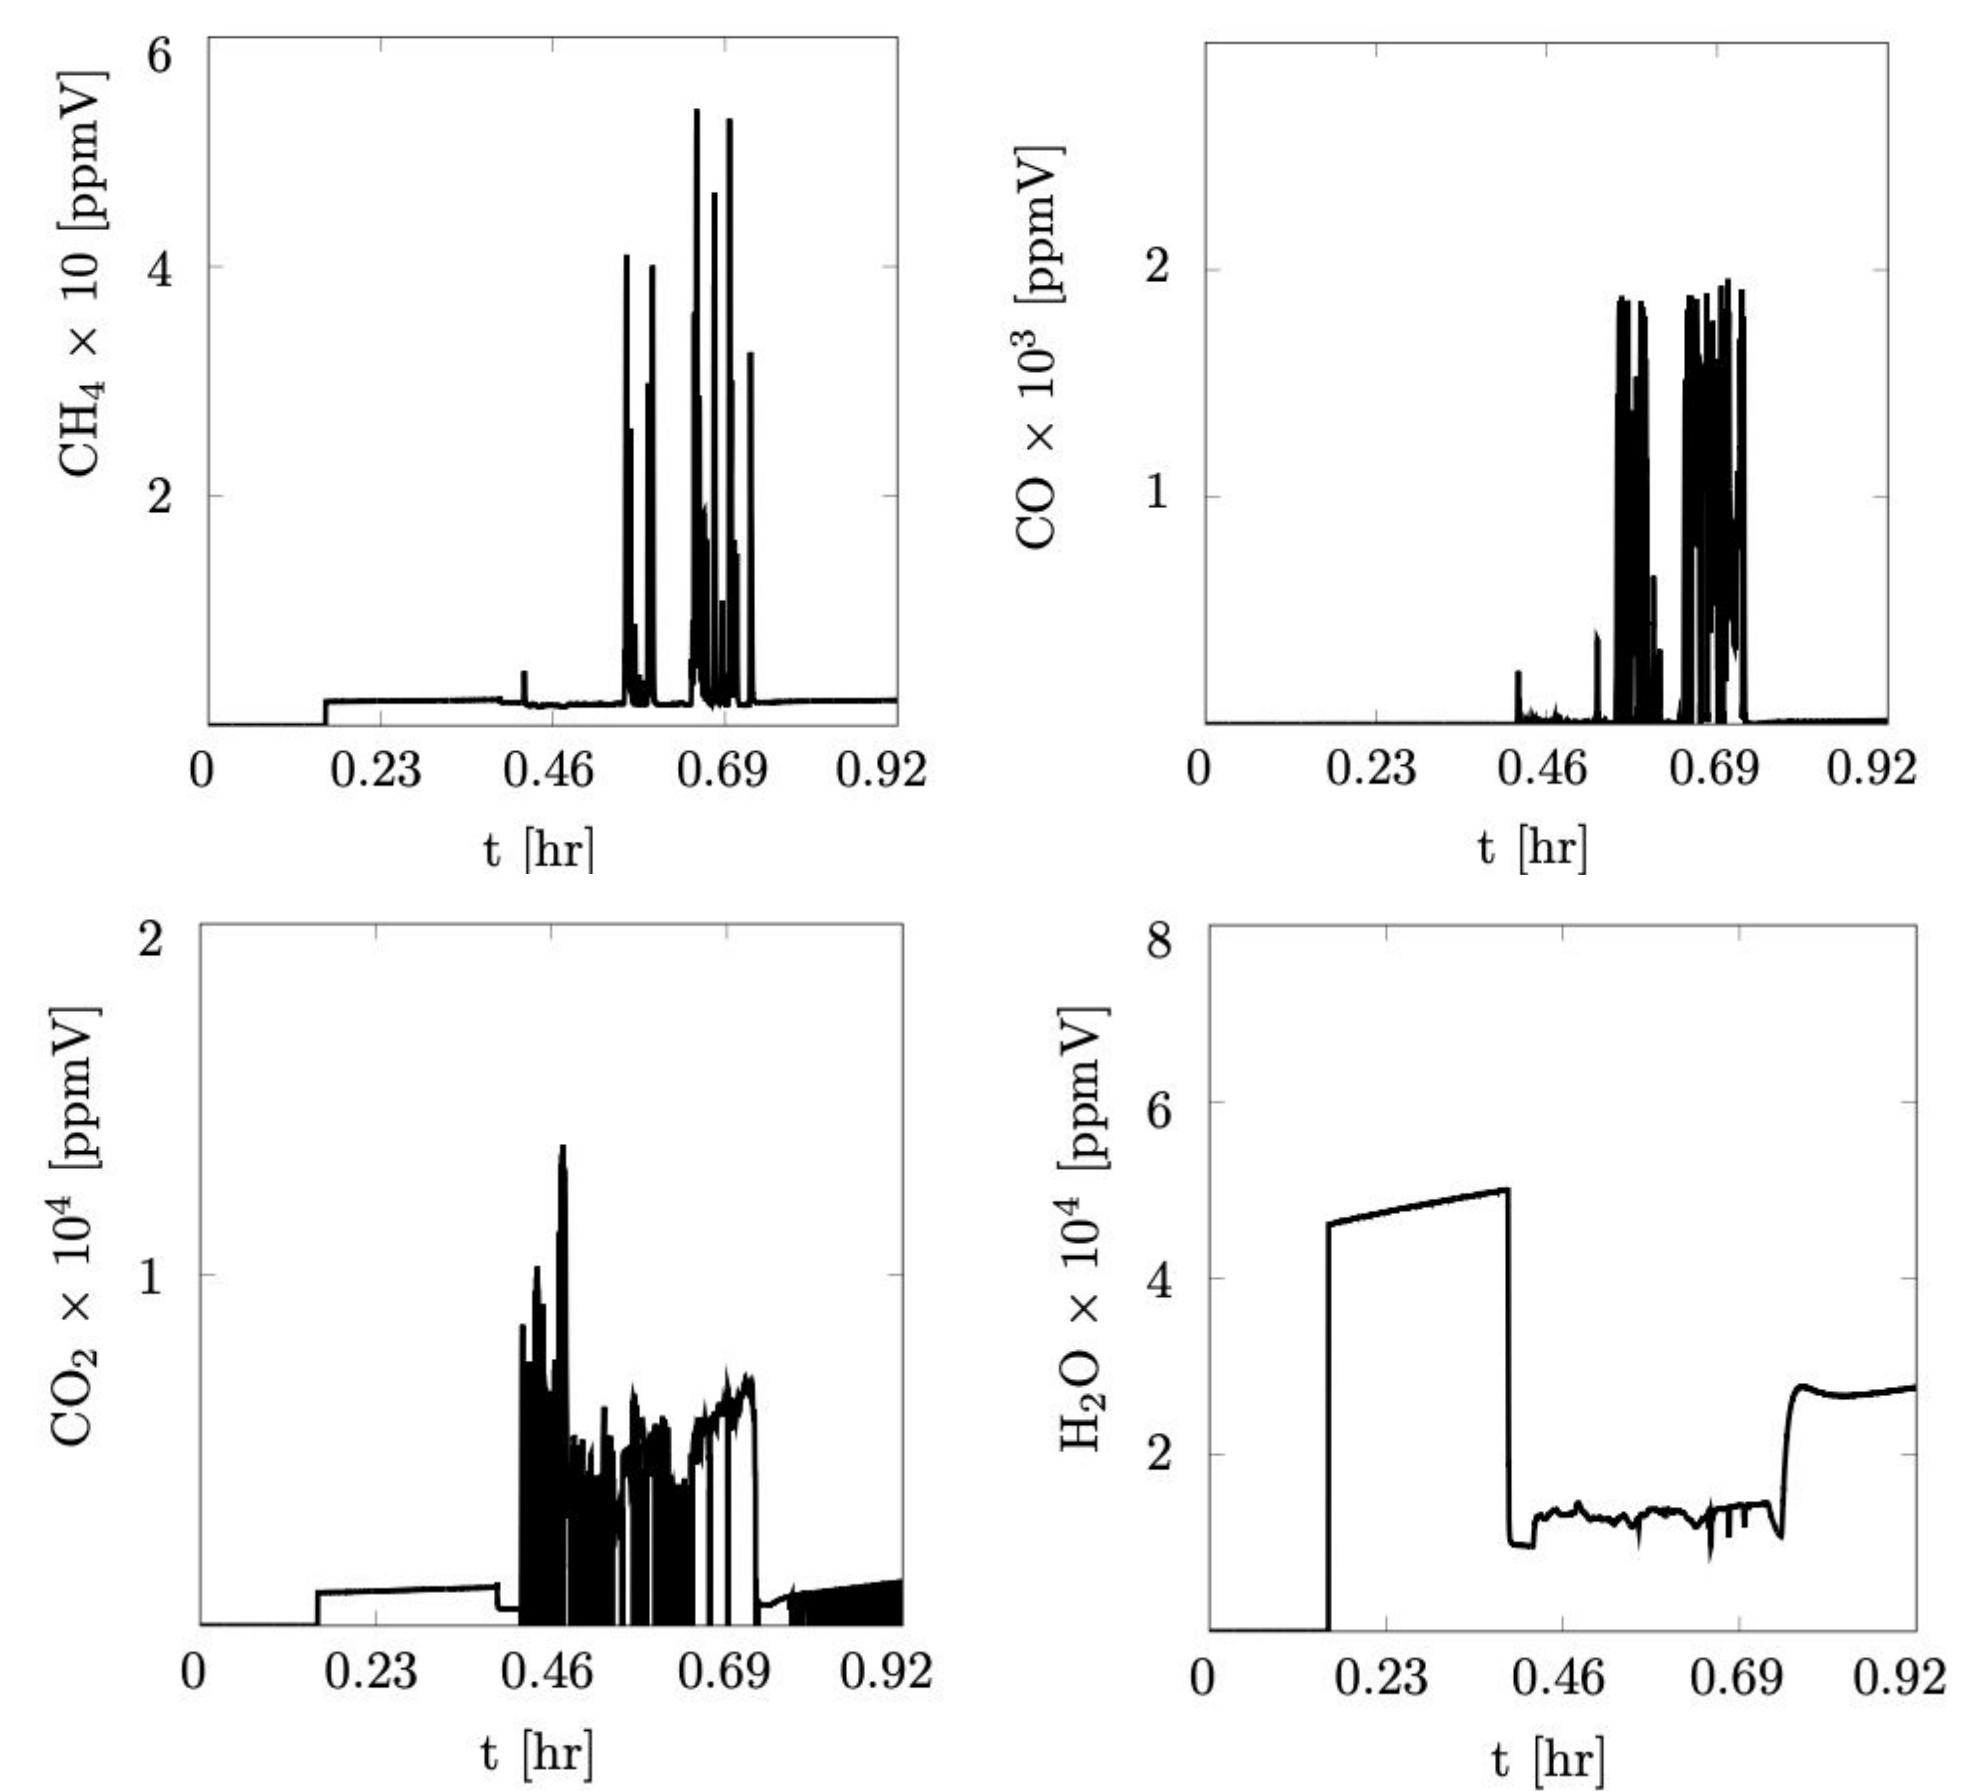

Figure 4: The concentration of gaseous species from candle.
– Figure 4 presents the temporal variations in CH₄, CO, CO₂, and H₂O concentrations as measured by MIRO. The data will be used to validate our understanding of the underlying processes involved.